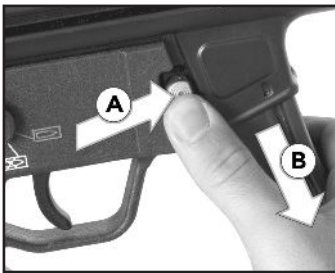

Fig. 27 – Unloading
2. Remove magazine by grasping magazine housing, press magazine catch **A** and remove magazine **B** (Fig. 27).